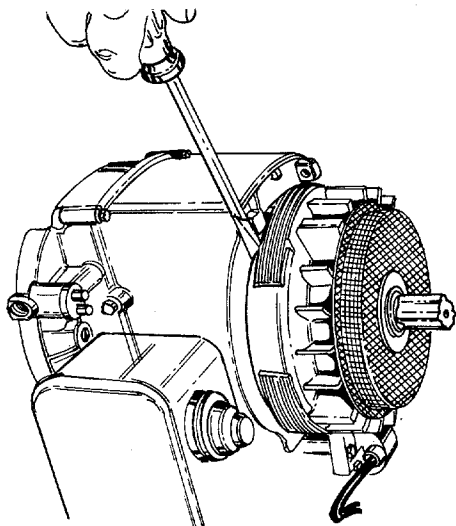

FIGURE 20.
- c. Insert a screwdriver into the notch on the flywheel to keep the crankshaft from turning as you remove the center bolt from the engine pulley. See figure 20.